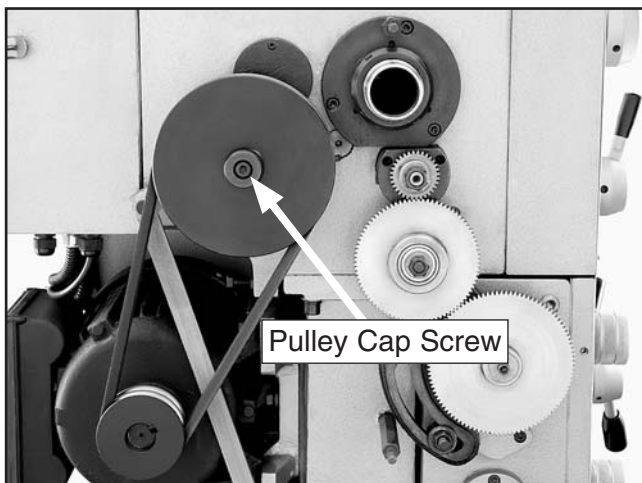

Figure 98. Pulley cap screw.
4. Step on the brake to lock the pulley in place, and remove the pulley cap screw shown in **Figure 98**. (The cap screw has normal right-hand threads and removes by turning counterclockwise.)